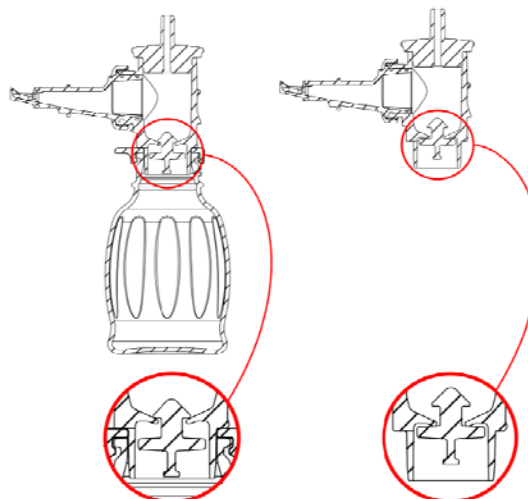

Fig. 6
- During the sampling operation the shut-off valve opens automatically (Figure 6)
- During this operations the shut off valve closes the vacuum (maximum vacuum consumption 10 l/min @50kPa (Fig. 6). The shut off valve opens again automatically and enables the milk transit for sampling only when the user screws the bowl.
During the sampling operation the shut-off valve (ref.41) opens automatically (Fig. 6)
During this operation the shut off valve ref. 41 closes the vacuum (maximum vacuum consumption 10 l/min @50kPa (0.35 ft³/min @ 14.76 "Hg) – Fig. 6). The shut off valve opens again automatically and enables the milk transit for sampling only when the user screws the bowl.